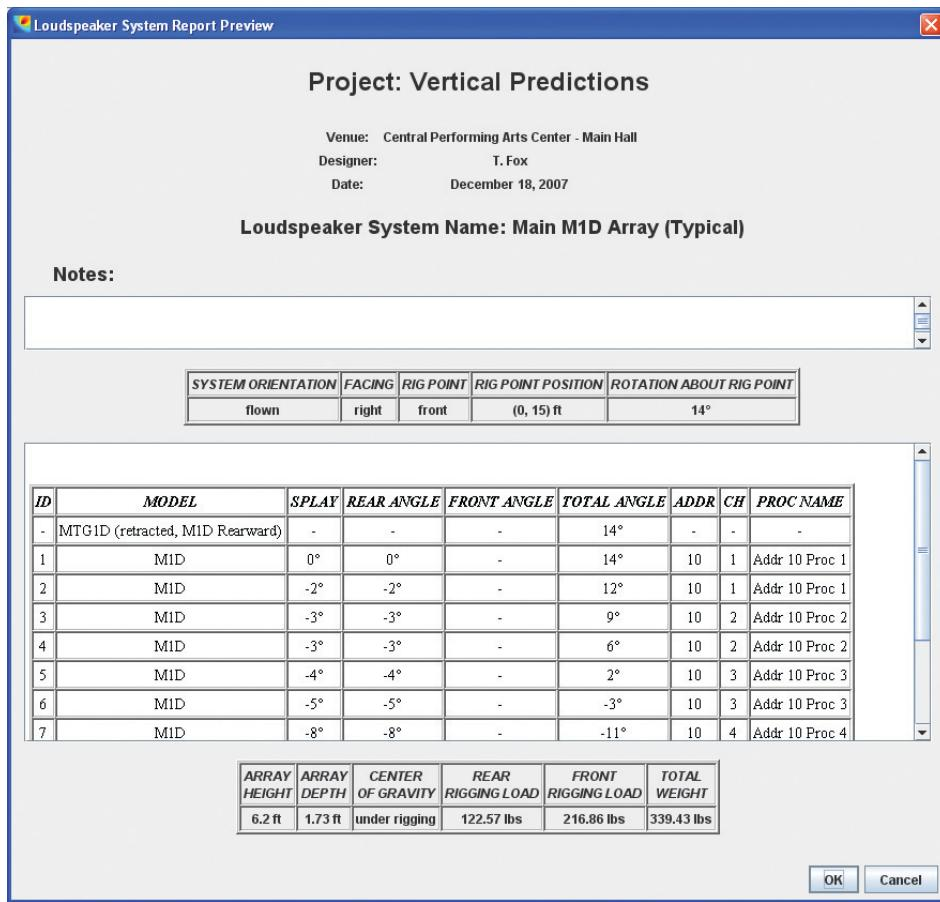

Figure 35. The Loudspeaker System Report Preview dialog box
3. The Loudspeaker System Report Preview will appear (Figure 35). You can type additional notes then click **OK** to proceed to the Save Loudspeaker System Report As dialog box.